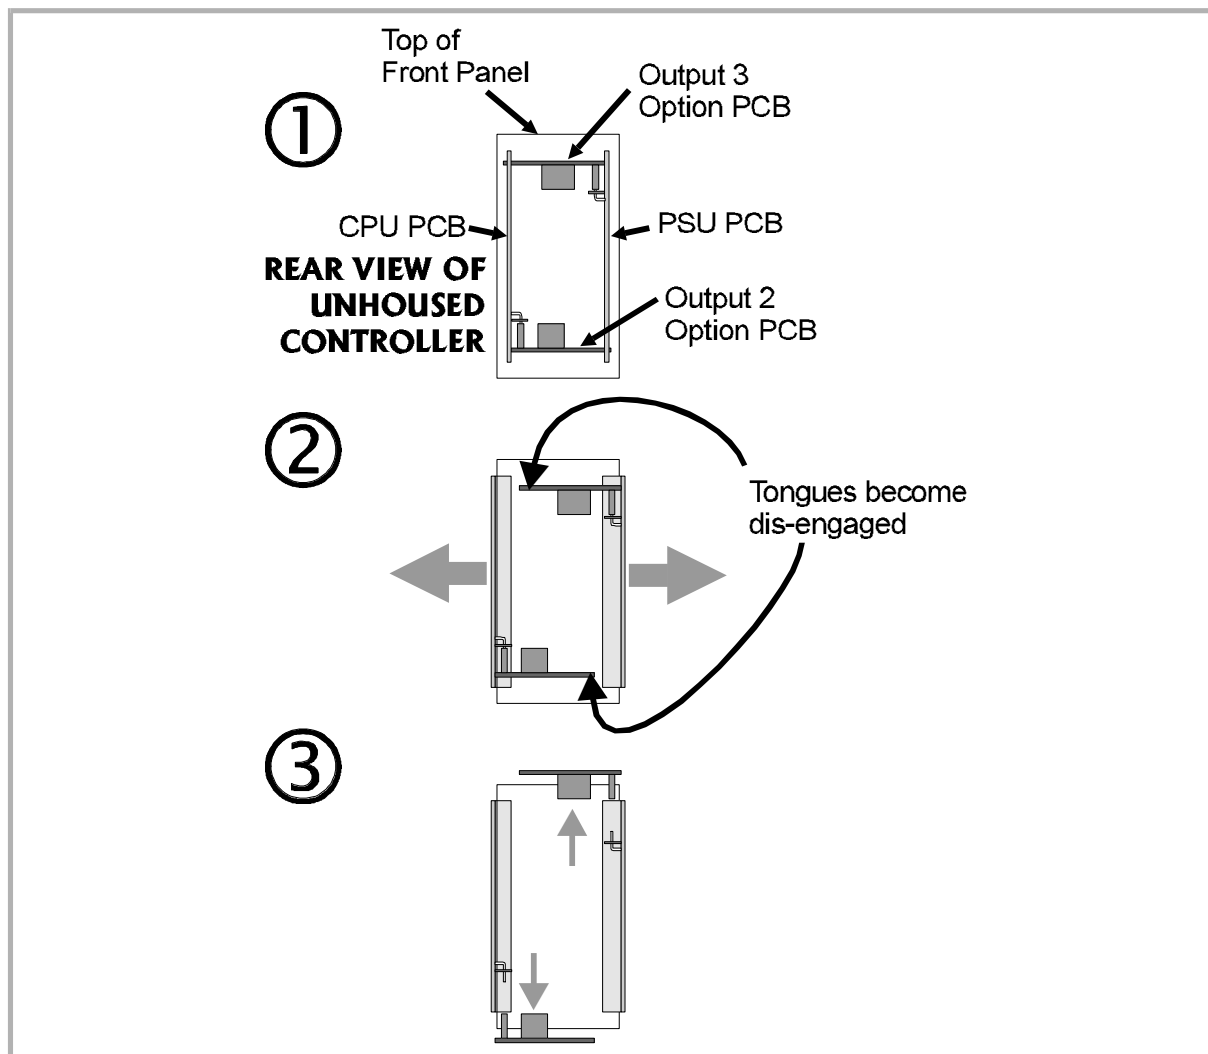

Figure 2-2 Removing the Output 2/Output 3 Option PCBs
1. Push the rear ends of the CPU PCB and PSU PCB apart until the two tongues on each of the Output 2/Output 3 Option PCBs become dis-engaged - see Figure 2-2 Step 2. (The Output 2 Option PCB engages in holes in the PSU PCB and the Output 3 Option PCB engages in holes on the CPU PCB.
2. Pull the required Option PCB (Output 2 or Output 3) from its connector (Output 2 Option PCB is connected to the CPU PCB and Output 3 Option PCB is connected to the PSU PCB) - see Figure 2-2 Step 3. Note the orientation of the PCB in preparation for its replacement.